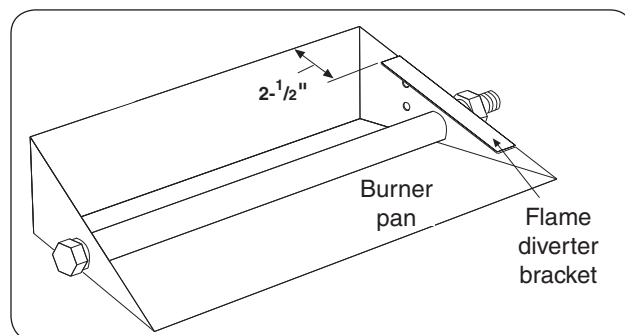

Fig. 5-3
1. Place the flame diverter bracket over the side edge of the burner pan, near the location the safety control system pilot bracket will be attached. It should be placed **approximately 2-1/2"** from the rear wall of the burner pan (see Fig. 5-3).